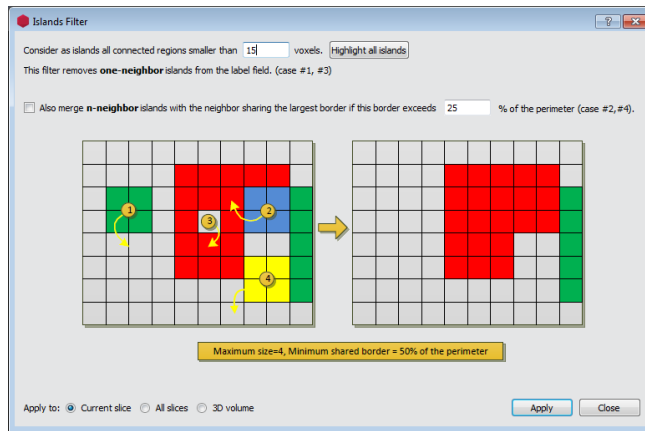

Figure 7.6: Islands filter dialog.
- In the *Segmentation* menu, select *Remove islands...* (see Figure 7.6).